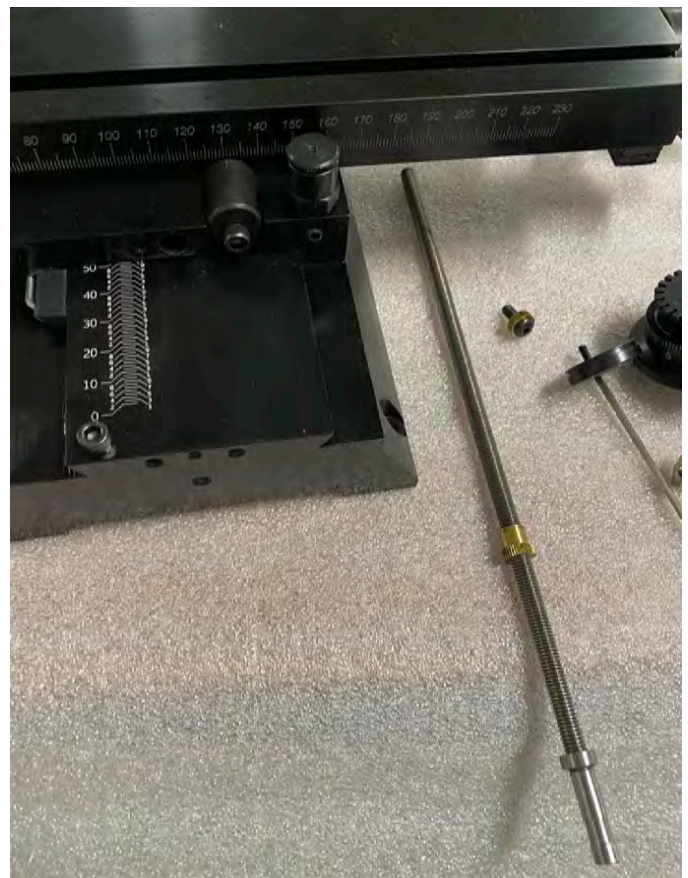

FIGURE 7
G. Unthread the slide screw from the saddle (see Figure 7).